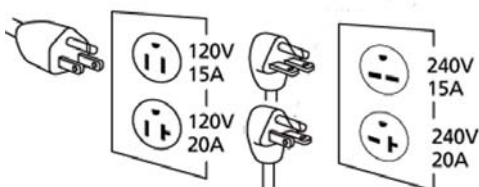

Figure 3
1. This product is for use on a nominal 120 v circuit. It must be grounded. In the event of an electric short circuit, grounding reduces the risk of electrical shock by providing an escape wire for the electric current. Unit is equipped with a cord that has a grounding prong. It will fit one of the common outlet types shown in Figure 3. If plug will not fit in the desired outlet, have the plug or the outlet replaced by a qualified electrician.
1. If the plug on the electrical cord of the unit is unfamiliar to you or will not fit your particular receptacle, Figure 3 will help you understand why by illustrating the different plugs and the voltages they are to be used with.